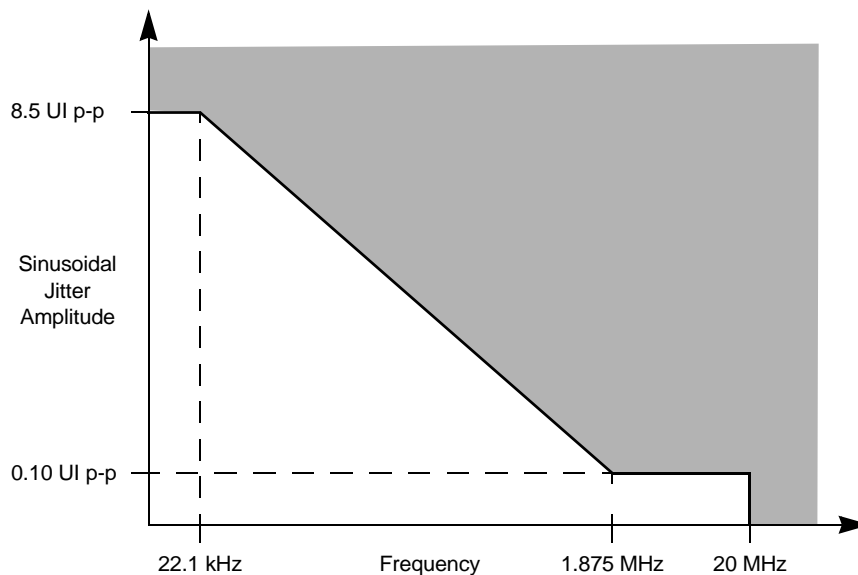

Figure 18. Single Frequency Sinusoidal Jitter Limits
2. Total jitter is composed of three components, deterministic jitter, random jitter, and single frequency sinusoidal jitter. The sinusoidal jitter may have any amplitude and frequency in the unshaded region of Figure 18. The sinusoidal jitter component is included to ensure margin for low frequency jitter, wander, noise, crosstalk, and other variable system effects.
| 1. See Figure 18 for single frequency sinusoidal jitter limits | | | | | | |
| 2. Refer to RapidIO™ 1x/4x LP Serial Physical Layer Specification for interpretation of jitter specifications. Also see Figure 18. | | | | | | |